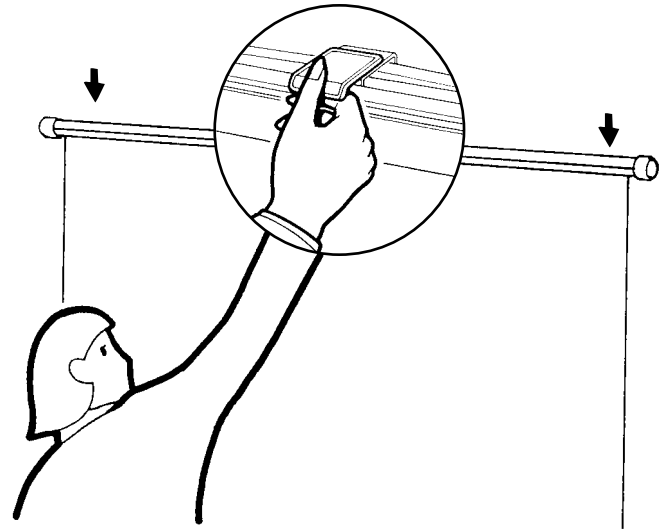

Figure 5
1. Grasp the Slat Handle and lower the screen slowly back into the case. Make sure you hold onto the handle and keep the slat level as you lower the screen back into the case (Figure 5).